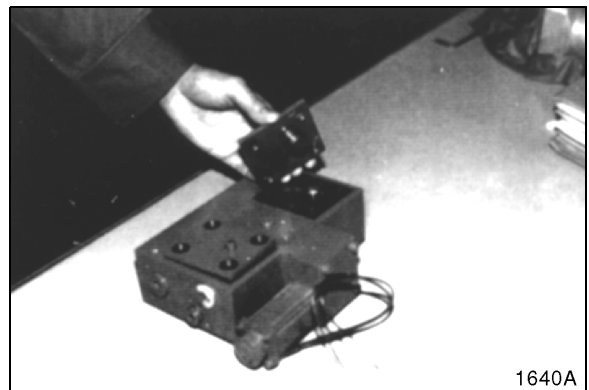

Figure 47
2. Remove plate. See Figure 47.